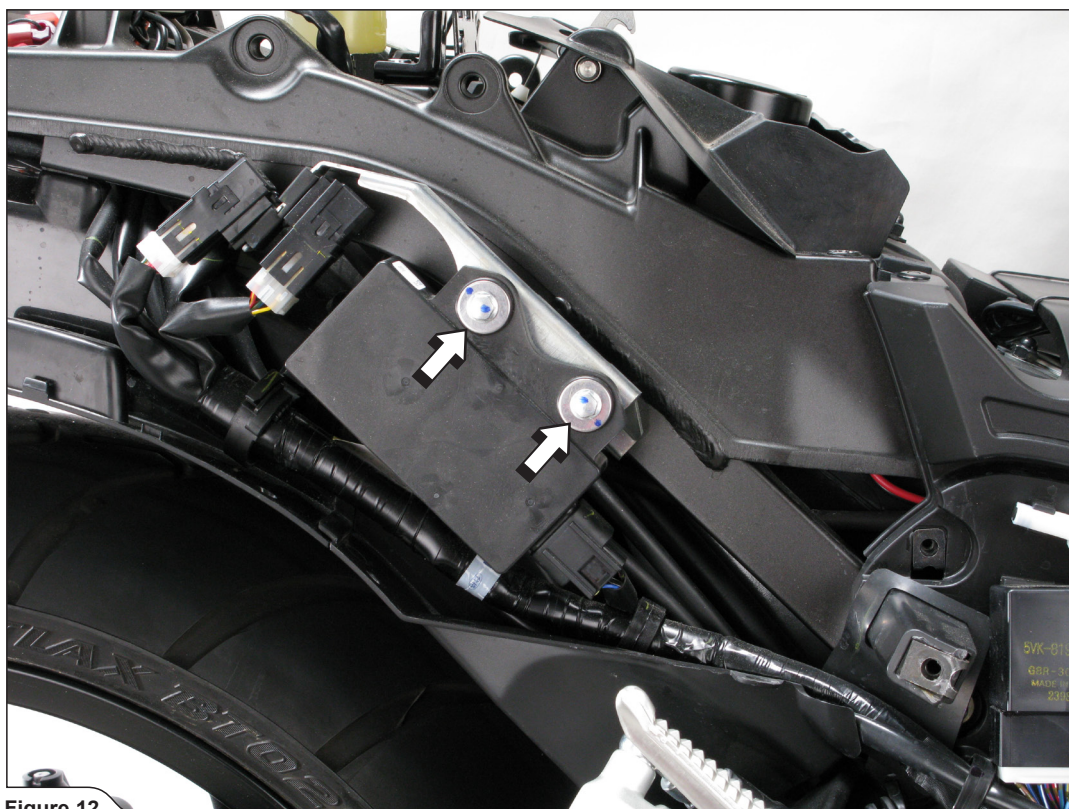

Figure 12
11. **For OPEN SLIP-ON only:** unscrew the marked bolts and remove the stock servo motor and anhook the cable of the exhaust valve (**Figure 12, 13**).